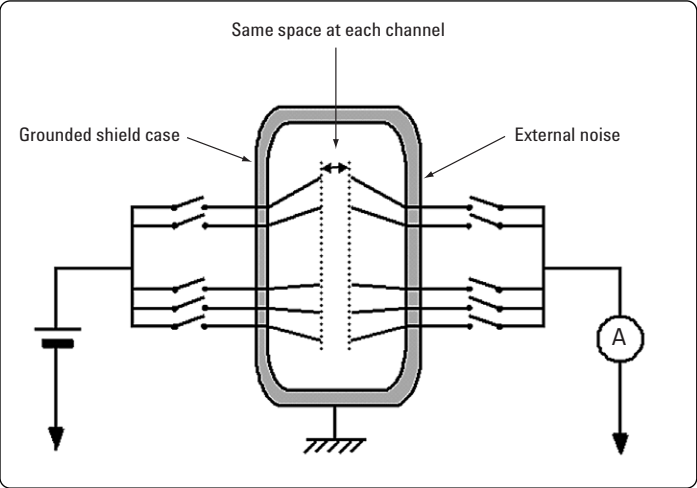

Figure 16. Insulation resistance measurement using the grounded shield case
- The insulation resistance measurement can be easily affected by external noise, which causes unstable measurement results. To make the results stable, we highly recommend that you use a grounded shield case as shown in Figure 16.